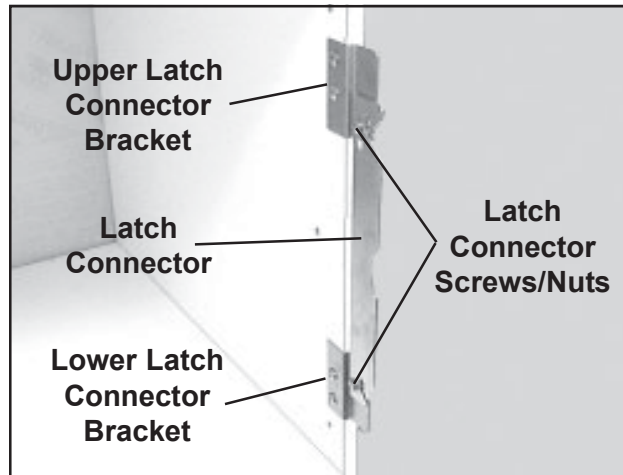

Figure 43. Latch Connector & Bracket Assembly
3. With a Phillips screwdriver and a 7/16 in. wrench, remove the two screws/nuts that hold the latch connector to the upper and lower latch connector brackets, and remove the latch connector (Figure 43).